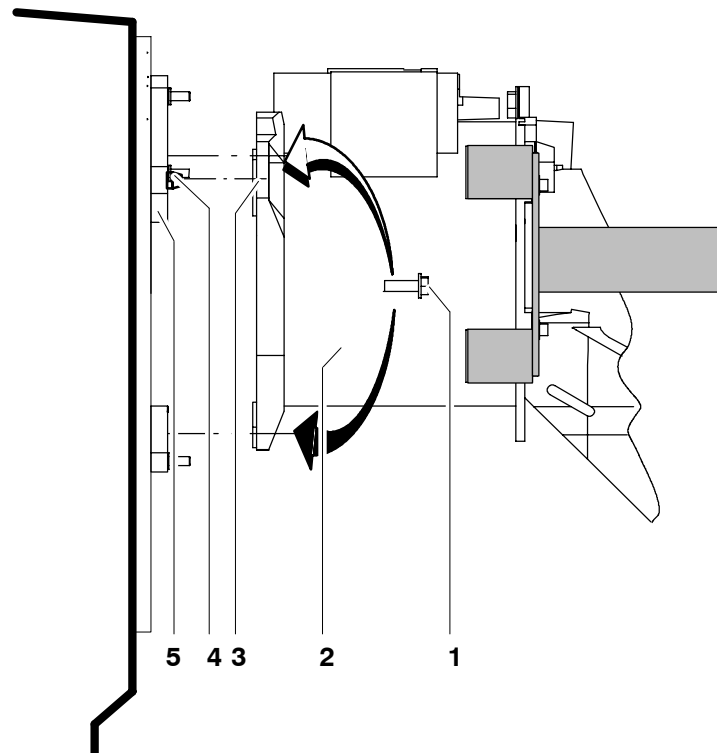

Fig. 73 Installing the manipulator on the wall
- (3) Set the manipulator (Fig. 73/2) down at right angles to the mounting surface to prevent damage to the locating pins.